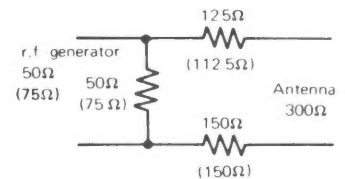

Fig. 2 Dummy Antenna
- * When connecting the r.f. generator to the antenna terminal use the dummy antenna refer to Fig. 2.